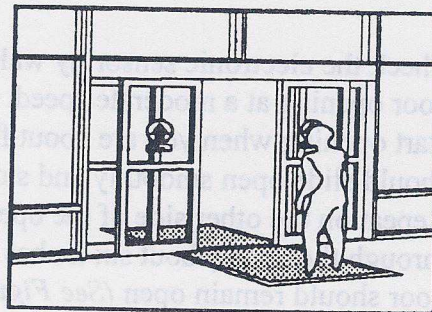

Figure 4
- A. Step on the "opening" mat in several places. The door should open smoothly and stop without impact (See Figure 4).